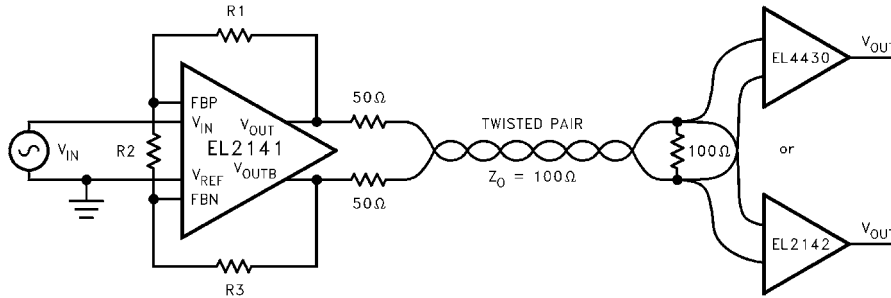

FIGURE 1. TYPICAL TWISTED PAIR APPLICATION
**H2** The second harmonic arises from the input stage, and the lower the applied differential signal amplitude, the lower the magnitude of the second harmonic. For practical considerations of required output signal and input noise levels, the user will end up choosing a circuit gain. Referring to Figure 1, it is best if the voltage at the negative feedback node tracks the VREF node, and the voltage at the positive feedback node tracks the VIN node respectively. This would theoretically require that R1 + R2 = R3, although the lowest distortion is found at about R3 = R1 + (0.7\*R2). With this